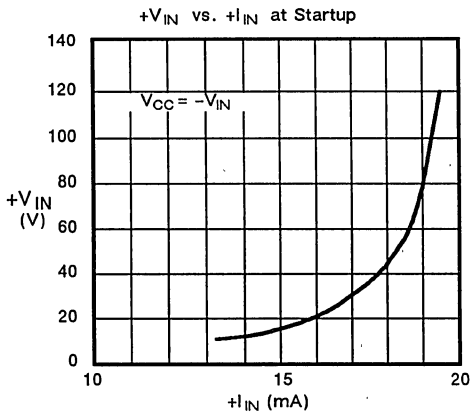

Figure 4
**NOTE:** During startup or when VCC drops below 8.6 V the startup circuit is capable of sourcing up to 20 mA. This may lead to a high level of power dissipation in the IC (for a 96 V input, approximately 2 W). Excessive start up time can result in device damage. See Figure 4 for calculation of power dissipation during start up.